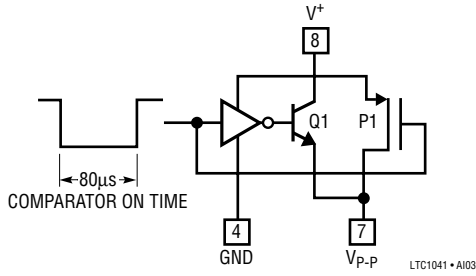

Figure 3. V_{p-p} Output Switch
Figure 3 shows the V_{P-P} output circuit. The V_{P-P} output voltage is not precisely controlled when driving a load (see typical curve of V_{P-P} Output Voltage vs Load Current). In spite of this, high precision can be achieved in two ways: (1) driving ratiometric networks and (2) driving fast settling references.